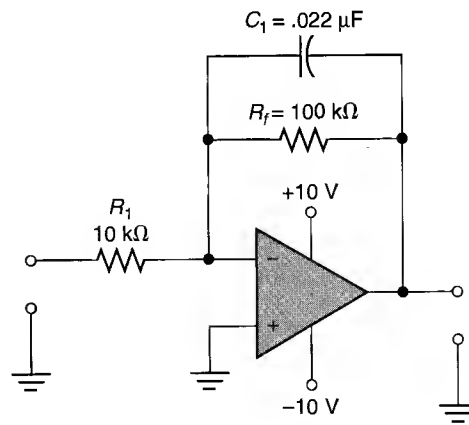

FIGURE 16.39
- Determine the cutoff frequency of the circuit shown in Figure 16.39.
- Determine the frequency at which the circuit shown in Figure 16.39 will start to lose its linear output characteristics.